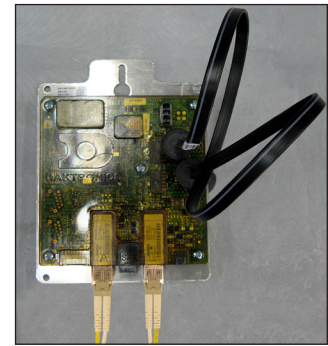

Figure 25: ProLink Router Connected For Self-Test
1. Connect a duplex fiber cable from Fiber Port A to Fiber Port B. Refer to **Figure 25**.